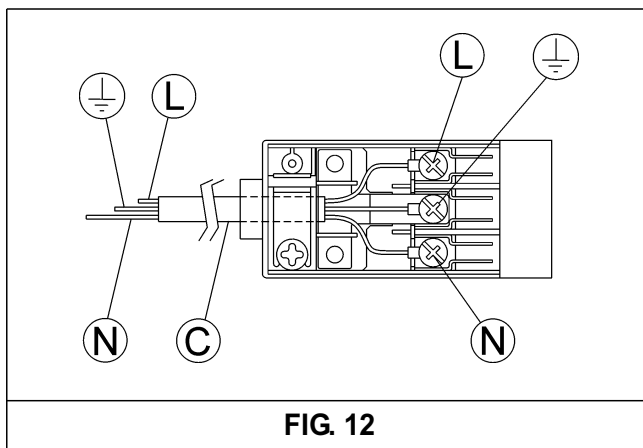

FIG. 12
- fit a standard plug suited to the load indicated on the data label to the cable (see fig. 12).